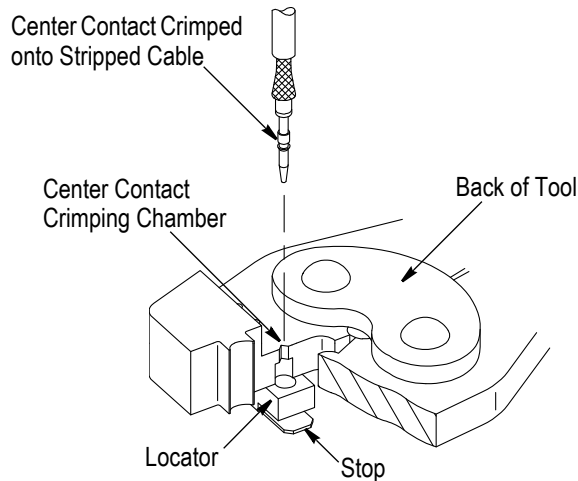

Figure 3
5. Insert the center contact into tool locator until it butts against the stop. See Figure 3.